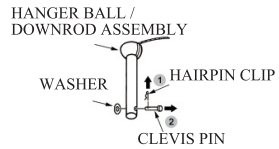

FIG.1
1. Remove the hairpin clip & washer from the clevis pin and remove clevis pin from down rod. (see Fig.1)